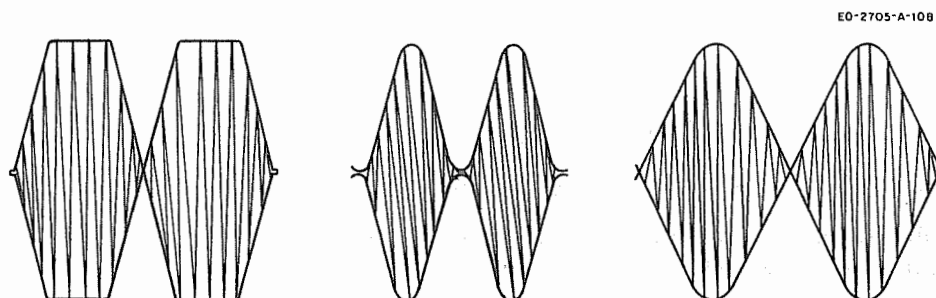

Figure 3-2. Waveforms
9. Feed two signals, 500Hz to 2400Hz, of 25 mV to the microphone input and adjust RV2 to obtain 10 watts of PEP power. Make sure the PEP power output at each channel is within 9 to 11 watts. The waveshape displayed on the oscilloscope should conform to the waveshape shown in figure 3-2.